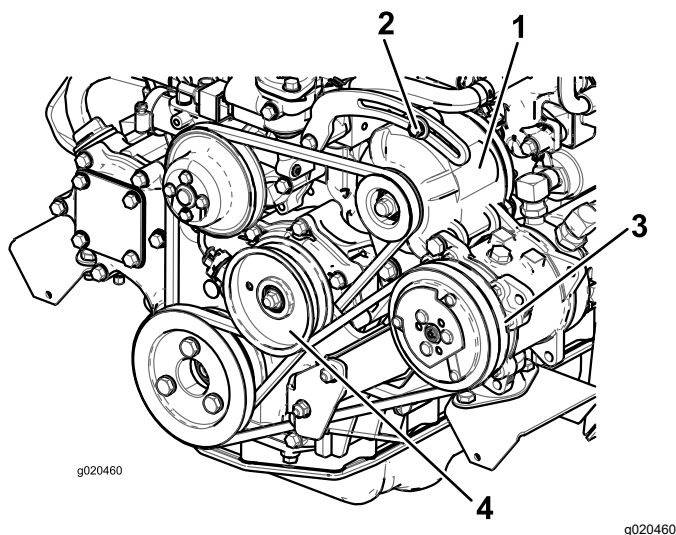

Figure 79
If the deflection is not 10 mm (3/8 inch), loosen the alternator-mounting bolts (Figure 79).
2. If the deflection is not 10 mm (3/8 inch), loosen the idler pulley mounting bolt (Figure 79).